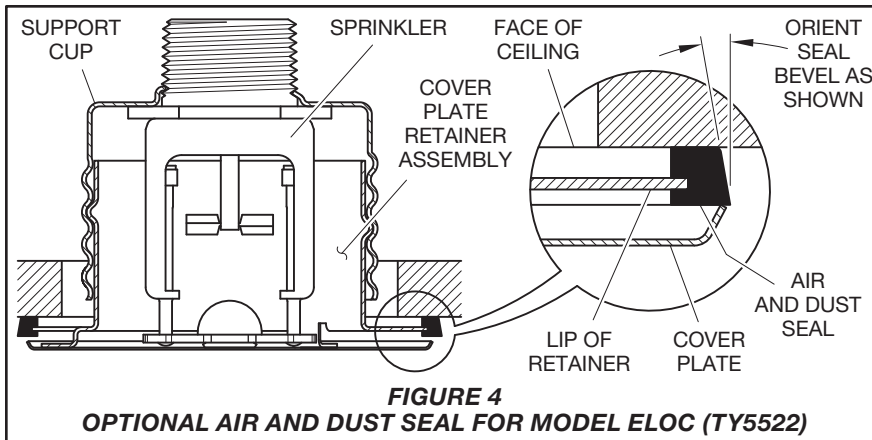

FIGURE 4
As an option, the Model ELOC Pendent Sprinklers may be fitted with a silicone air and dust seal as shown in Figure 4. The air and dust seal is intended for sensitive areas where it is desirable to stop air and dust travel through the cover plate from the area above the ceiling.
1. The 16 ft x 16 ft (4,9 m x 4,9 m) and 18 ft x 18 ft (5,5 m x 5,5 m) coverage areas are rated standard response when the air and dust Seal as shown in Figure 4 is utilized.
Step 7. When installing an air and dust seal, refer to Figure 4, otherwise proceed to Step 8. To attach the air and dust seal, verify the angle of the outside
edge of the seal is oriented according to Figure 4. Start the edge of the retainer in the grooved slot of the air and dust seal and continue around the retainer until the entire air and dust seal is engaged.
Step 8. Screw on the cover plate/retainer assembly until the retainer (see Figure 2) or air and dust seal (see Figure 4) contacts with the ceiling. Do not continue to screw on the cover plate/retainer assembly such that it lifts a ceiling panel out of its normal position. If the cover plate/retainer assembly cannot be engaged with the support cup or the cover plate/retainer assembly cannot be engaged sufficiently to contact the ceiling, the sprinkler fitting must be repositioned.